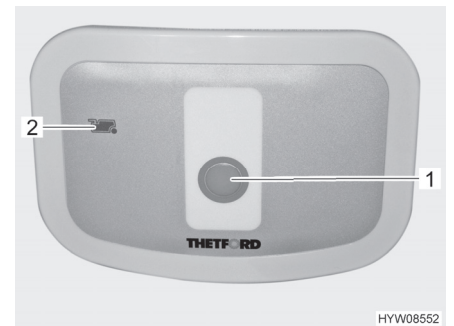

Fig. 199 Flush button/indicator lamp (Thetford toilet)
- For flushing, press the blue flush button (Fig. 199,1).
The indicator lamp (Fig. 199,2) lights up whenever the sewage tank has to be emptied.